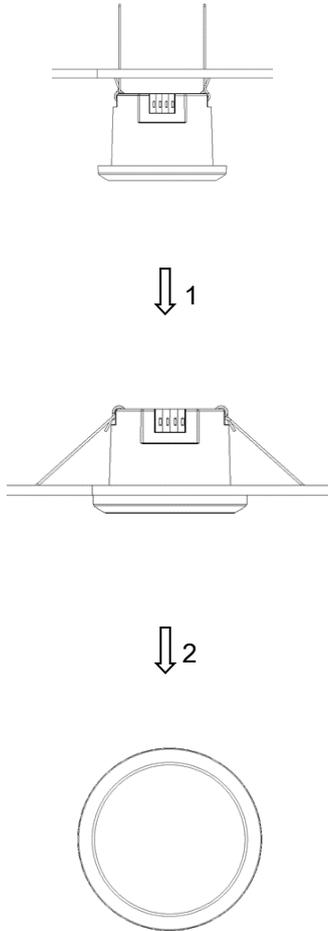

Figure 7. Installation
**Ceiling-mounted installation - See Figure 7**
Installation	Ceiling mount (See Figure 7)